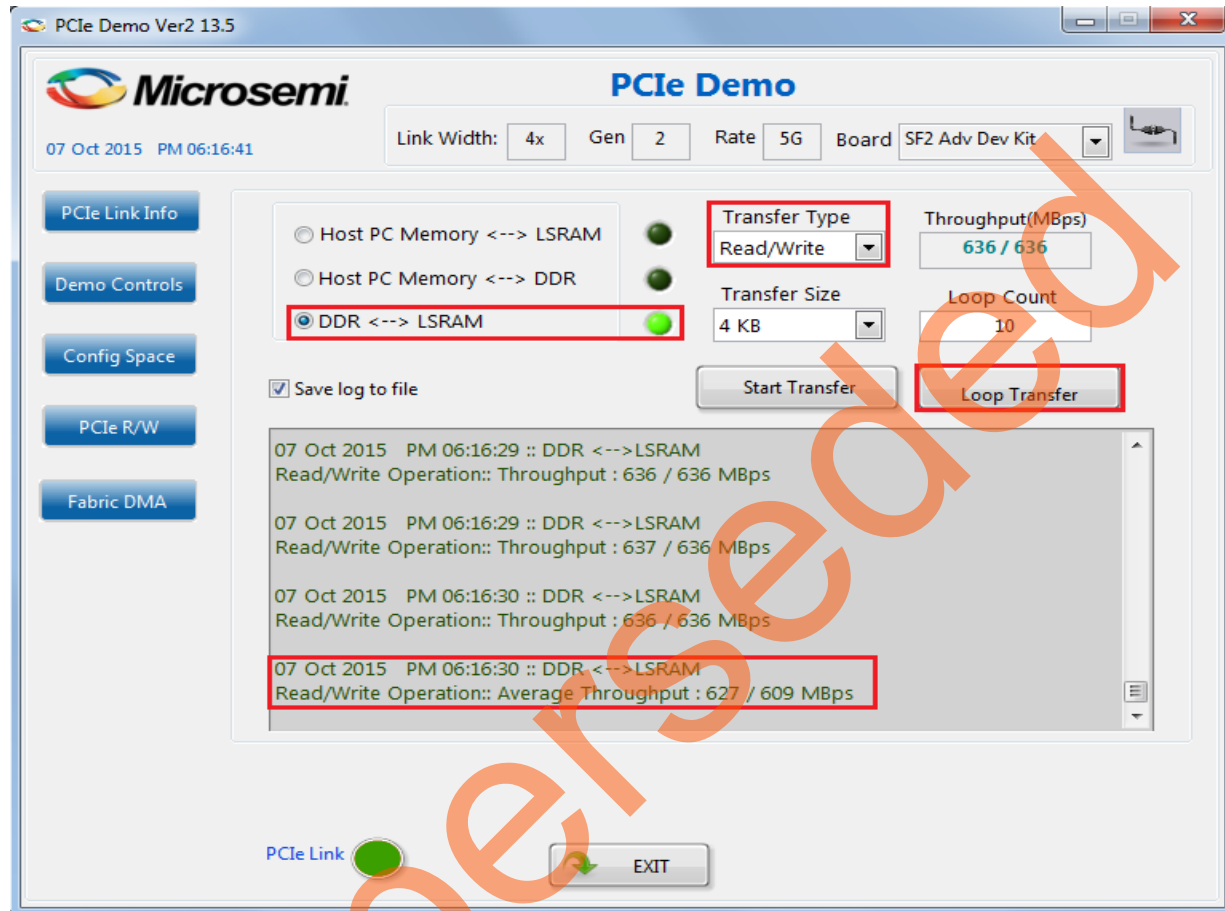

Figure 33 • DMA between LSRAM and DDR
23. Select the type of DMA transfer as LSRAM to DDR. Select **Transfer Type** as **Read/Write** to perform simultaneous read and writes. Click **Loop Transfer** to perform 10 repeated DMA transactions. After completion of data transfer, the throughput is displayed as shown in Figure 33. The **Transfer Type** can be selected as **Read** or **Write**.